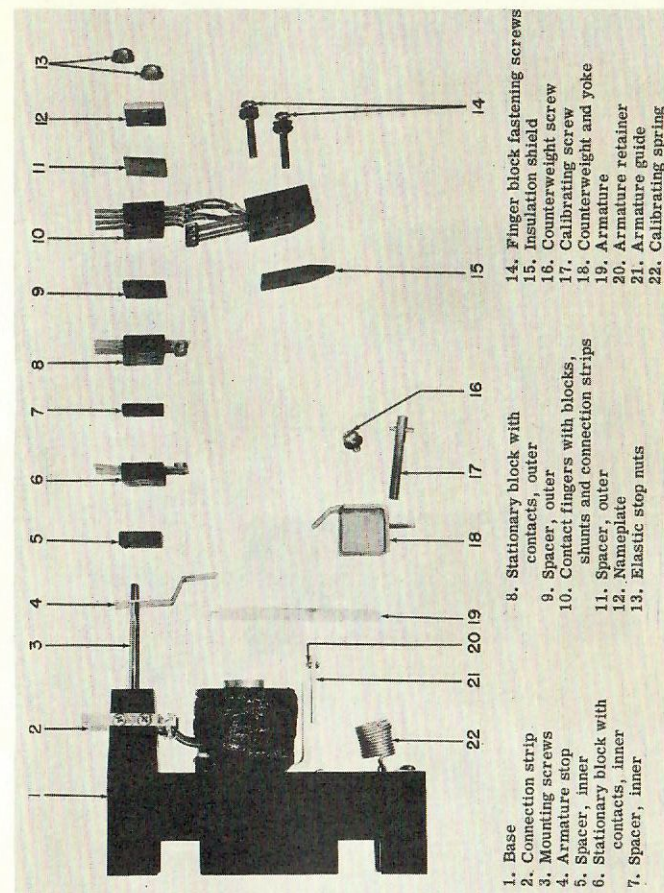

Fig. 15-20
See Fig. 15-20.
- (1) Slip armature 19 through armature guide.
**NOTE:** Do not remove armature retainer 20, Fig. 15-20.
- (2) To remove contact block and spacer mounting screws 3, loosen screw 4 located at top of relay between contact terminals. Loosen only enough to permit mounting screws 3 and holding strip 1 to drop out.
- (3) Unsolder coil leads.
- (4) Remove two screws 6 and 9, holding operating coil in place.
- (5) Remove core 8 and operating coil 7 by removing screw 11 from bottom of relay.
- (6) Remove magnet frame 10 by removing three flat-head screws.
- (1) Slide armature 19 through armature guide 21.
- (2) Install armature stop spacer, contact blocks and nameplate over mounting screws 3 as shown on Fig. 15-20. Check marking on side for correct positions of these parts. Tighten elastic stop nuts 13.
- (3) Install movable-contact finger-block assembly 10 and spacer 15 on armature 19 with the two screws 14.
- (4) Insert calibrating screw 17 and spring 22; turn screw 17 to slightly stretch spring.
- (5) Assemble counterweight 18 with screw 16.